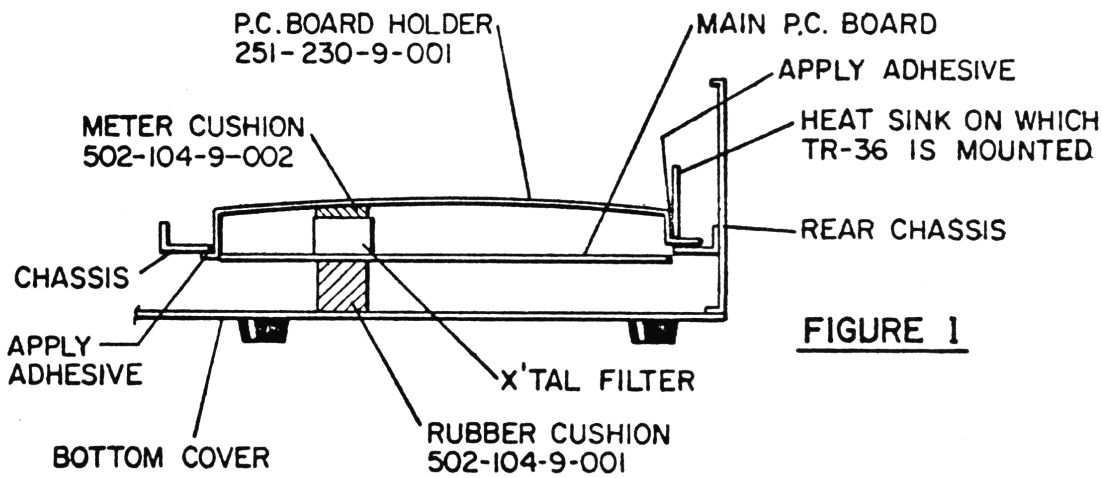

FIGURE 1
16. Paste two meter cushions (520-104-9-001) on top of Xtal filter (Fig.1).